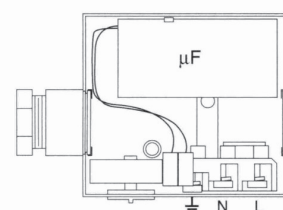

Fig. 4
- Carry out the connection to the mains according to fig. 4.